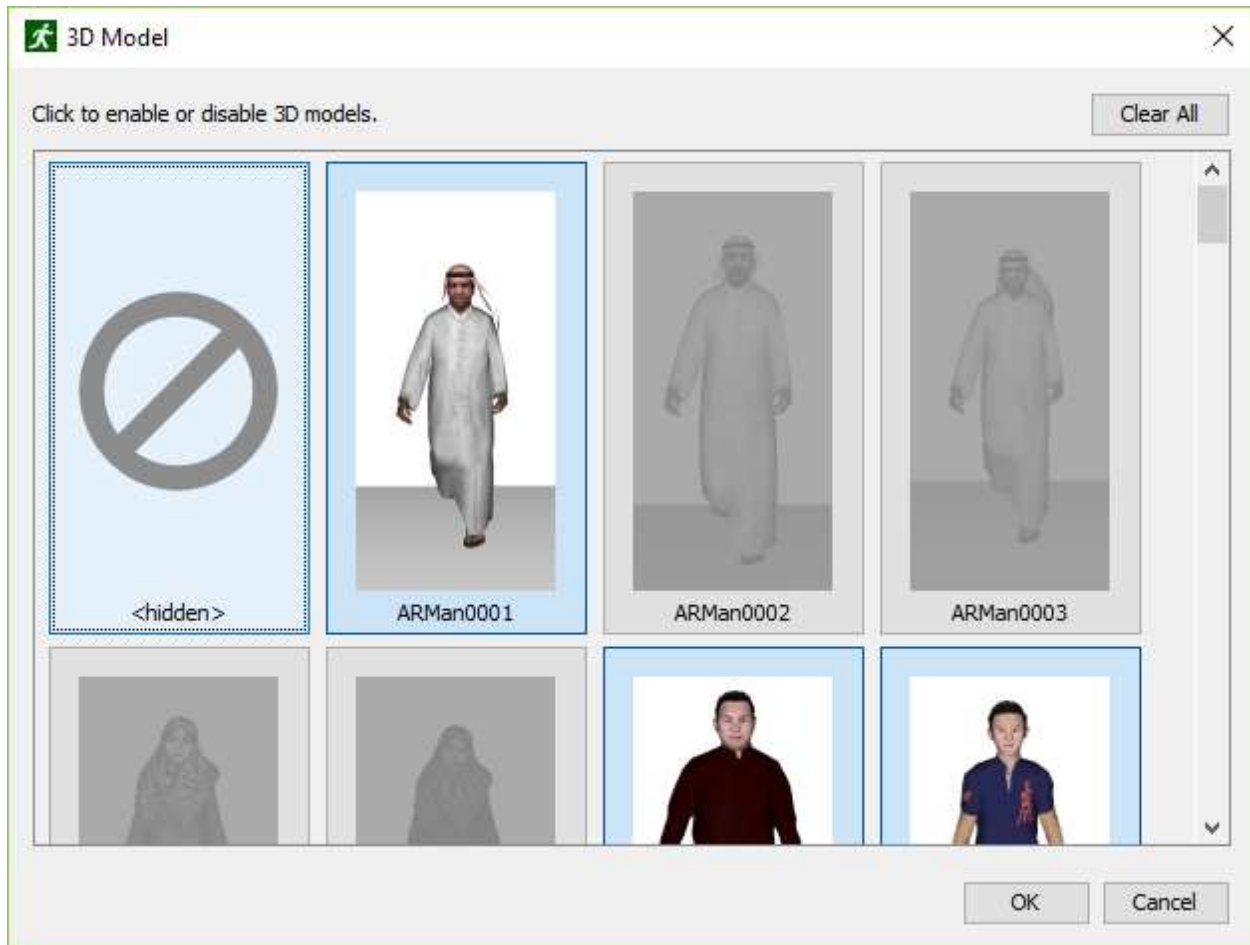

Figure 86. An example of the 3D model dialog.
1. Click **Edit** on the **3D Model** row. This will open the **3D Models** dialog (see Figure 86).